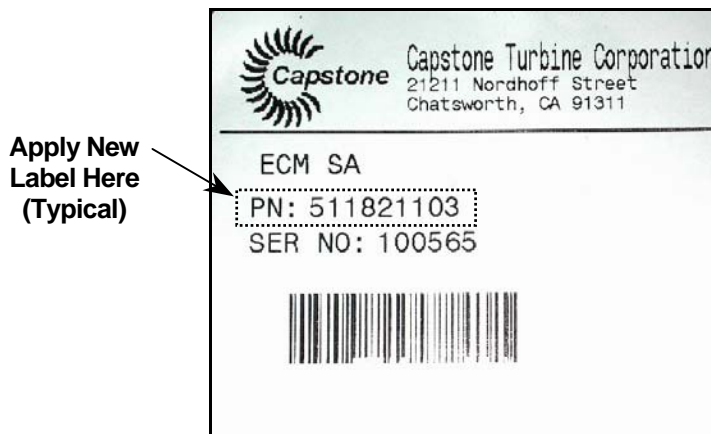

Figure 5. Applying the New Label
10. Apply the appropriate label over the PN: 51xxxxxx portion of the existing label on the ECM to reflect the new ECM configuration (see Figure 5). Note that two labels are included with the kit, one for the Grid Connect and one for the Stand Alone ECM.